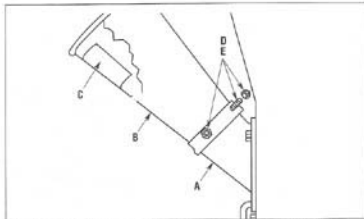

Figure 2-4: Install chipper chute with four carriage bolts and toplock nuts. Make certain safety message decal ("A") is positioned as shown.
- Remove the screws that secure a cardboard sleeve over the opening in the chipper chute base ("A" Figure 2-4). Discard the screws and the cardboard sleeve.
B. Insert the small end of the chipper chute ("B", Figure 2-4) into the chipper chute base ("A"). Align the four square holes in the chipper chute with the four round holes in the chipper chute base. Make certain that the safety message decal ("C") is positioned as shown in Figure 2-4.
C. From inside the chipper chute, insert four 1/4"-20 x 5/8" round head carriage bolts ("D", Figure 2-4) through the four holes. Add 1/4"-20 topleck nuts ("E") and tighten all four bolts and nuts very securely.